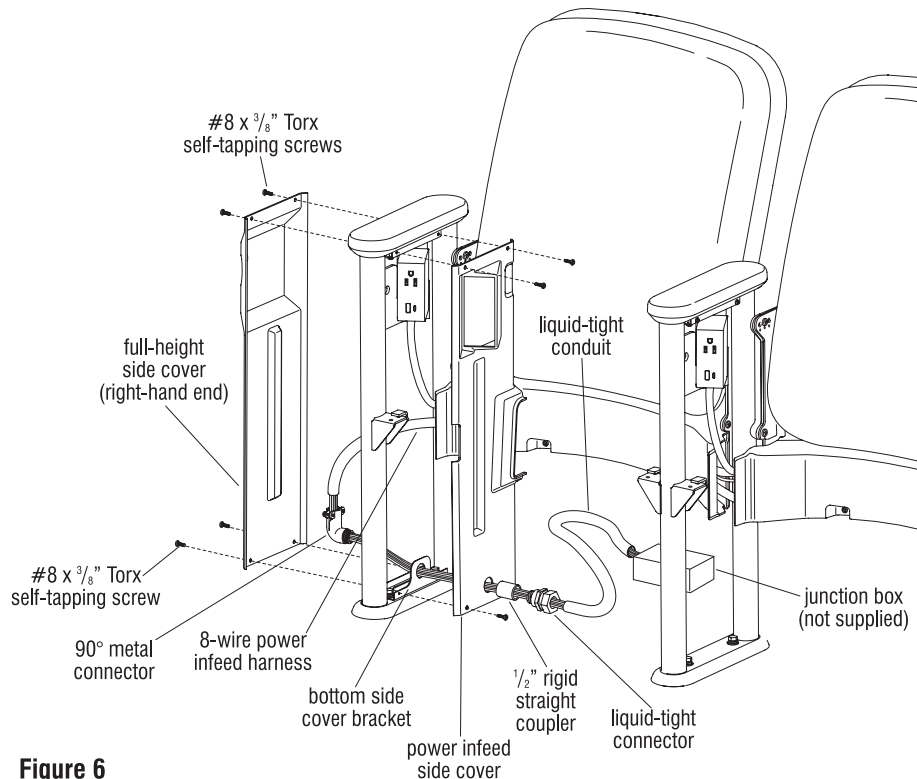

Figure 6
- Begin installation by making sure that a bottom side cover bracket has been installed and tightened correctly over the foot of the upright. Orient the power infeed side cover into position against the upright and the bottom side cover bracket. Secure the power infeed side cover to the bottom bracket only with two #8 x 3/8" Torx self-tapping screws. The top screws may be installed only if no tablet arm is to be attached to the upright. The top two screws must not secure the power infeed side cover at this time to allow for access to install the tablet arm (Figure 6).
- Remove the locking nut from the threaded end of the 90° metal connector and take off the back for ease in routing power wires. Place the threaded end of the metal connector through the hole in the bottom side cover bracket and the attached power infeed side cover. Thread a 1/2" rigid straight coupler onto the connector, over the power infeed side cover. Route the exposed 8-wires, of the power infeed harness, through the 90° metal connector and 1/2" rigid straight coupler. Pull the wires tight from the elbow side, to compress the flexible conduit to its required length. Replace the back of the 90° metal connector and secure the flexible conduit of the power infeed harness into the connector (Figure 6).
- Slide the liquid-tight connector onto the 8-wires and connect it to the 1/2" rigid straight coupler. Slide the liquid-tight conduit over the 8-wires and connect it to the liquid-tight connector. Finally, the liquid-tight conduit may be cut to the appropriate size, fastened to the junction box and the 8-wires may be connected to the power source (junction box not provided) (Figure 6).
- Secure the top of the power infeed side cover with two #8 x 3/8" Torx screws at this time (Figure 6).